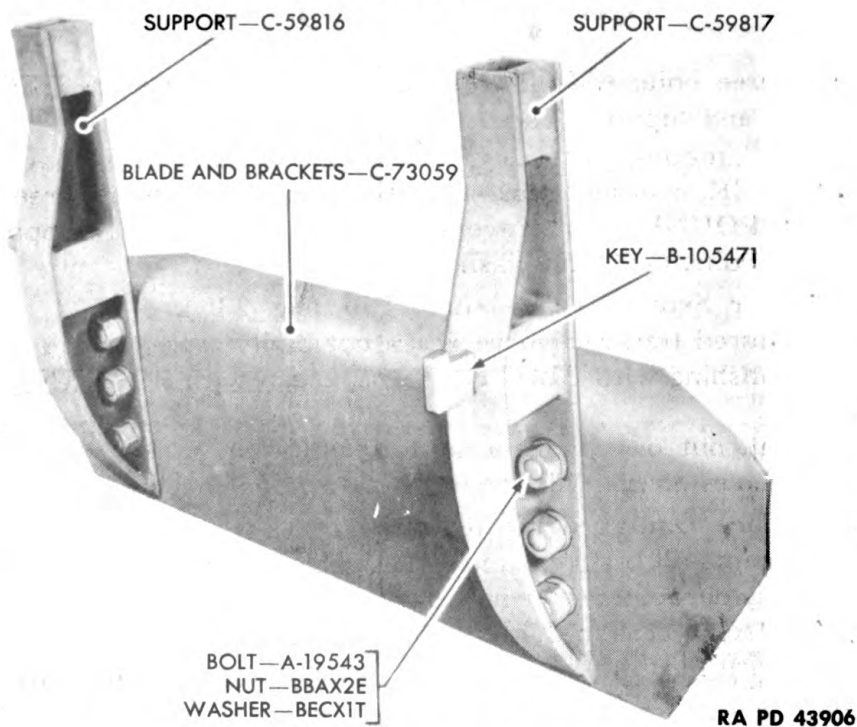

Figure 238—Right Front Spade Assembly
(1) If a front spade support (fig. 238) is damaged, but the spade can be made serviceable by replacing the support, proceed as follows: